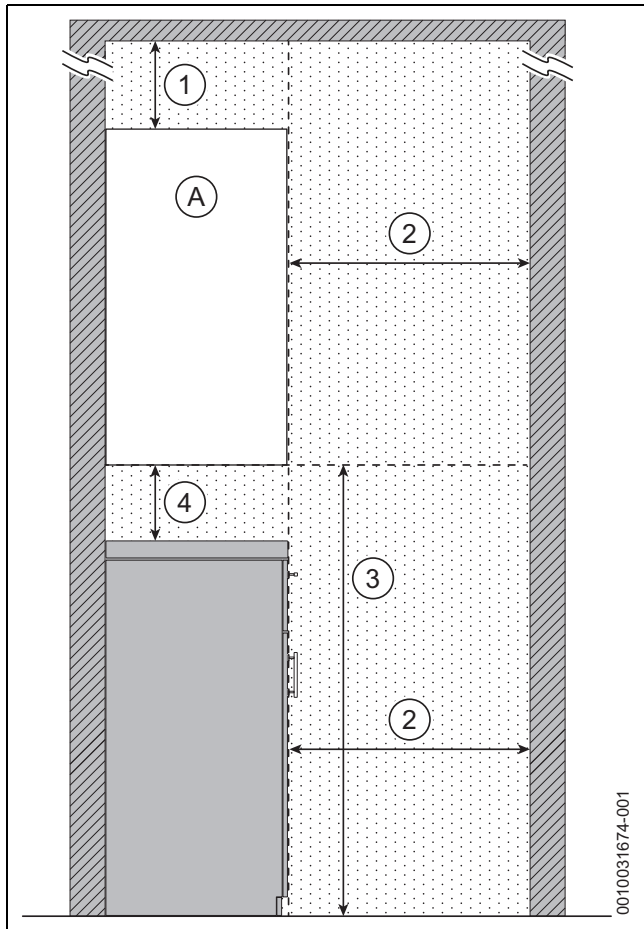

Fig. 11 Reduced front maintenance clearances - Side view
**i** Minimum clearances must be observed to any obstruction/ surface, (dark shaded areas, figures 11 and 12).